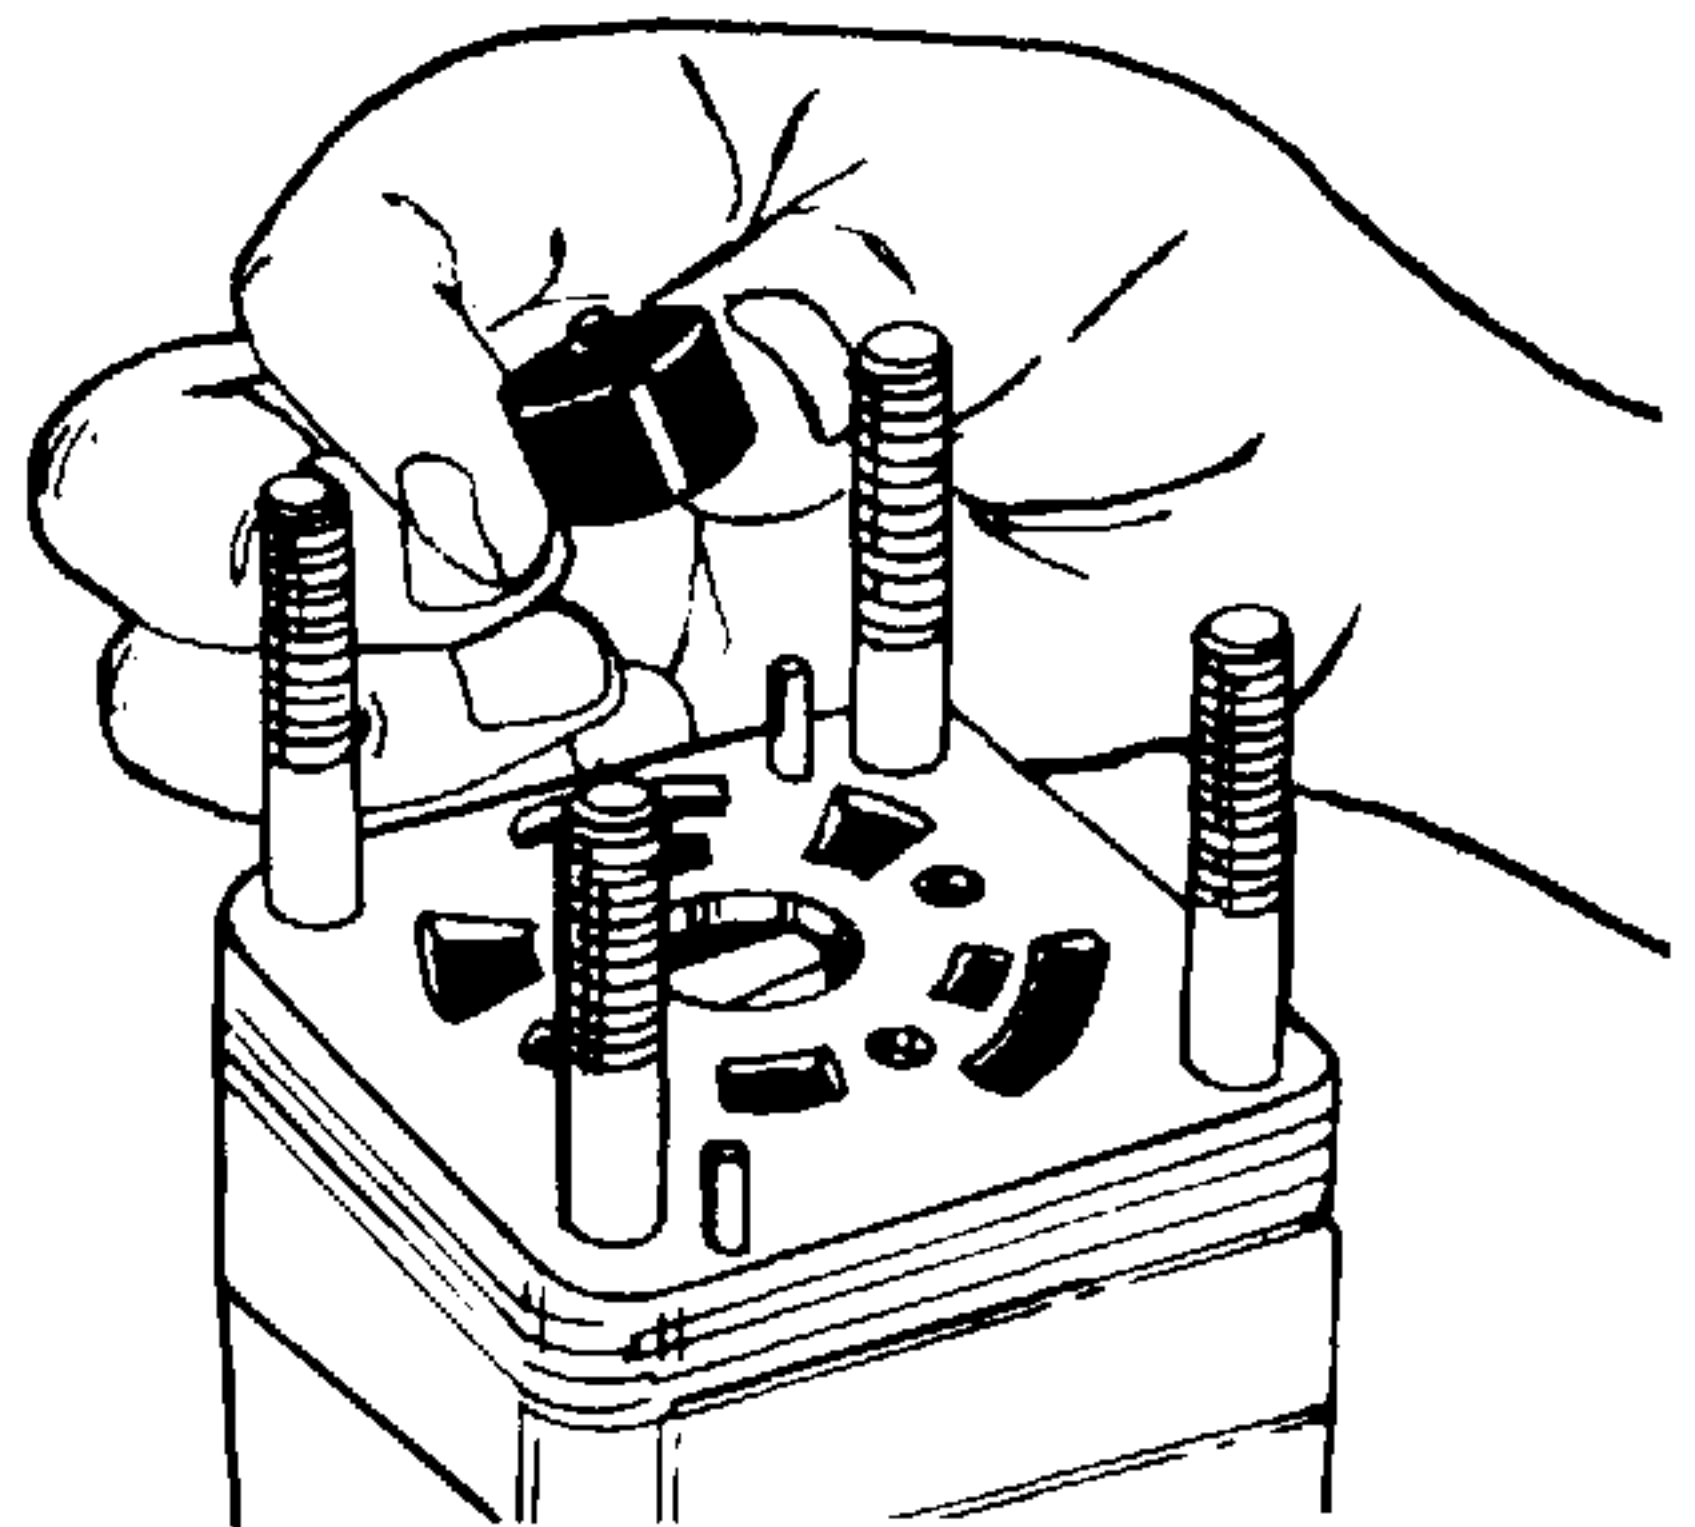

Figure 4-16. Removing Hex Drive Assembly.
15. Remove hex drive assembly (9, Figure 4-1) from drive link (14). See Figure 4-16.